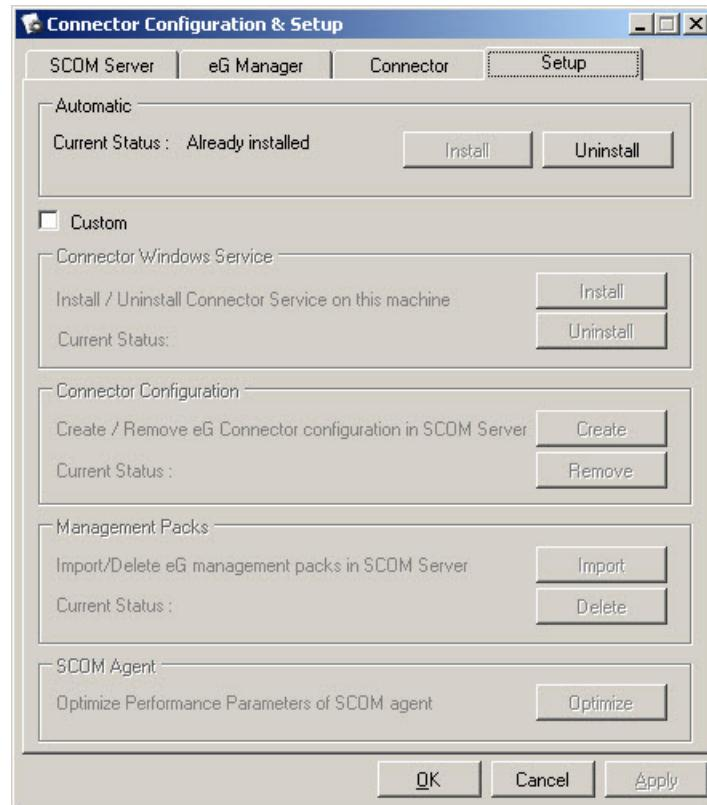

Figure 4.44: Clicking on the Setup tab page for uninstalling the connector configuration
2. When the **Connector Configuration & Setup** dialog box appears (see Figure 4.44), click on the **Setup** tab page therein.
3. Click on the **Uninstall** button in the **Automatic** section of Figure 4.44. This will invoke Figure 4.45, which will list all the **Tasks** the uninstallation will perform.